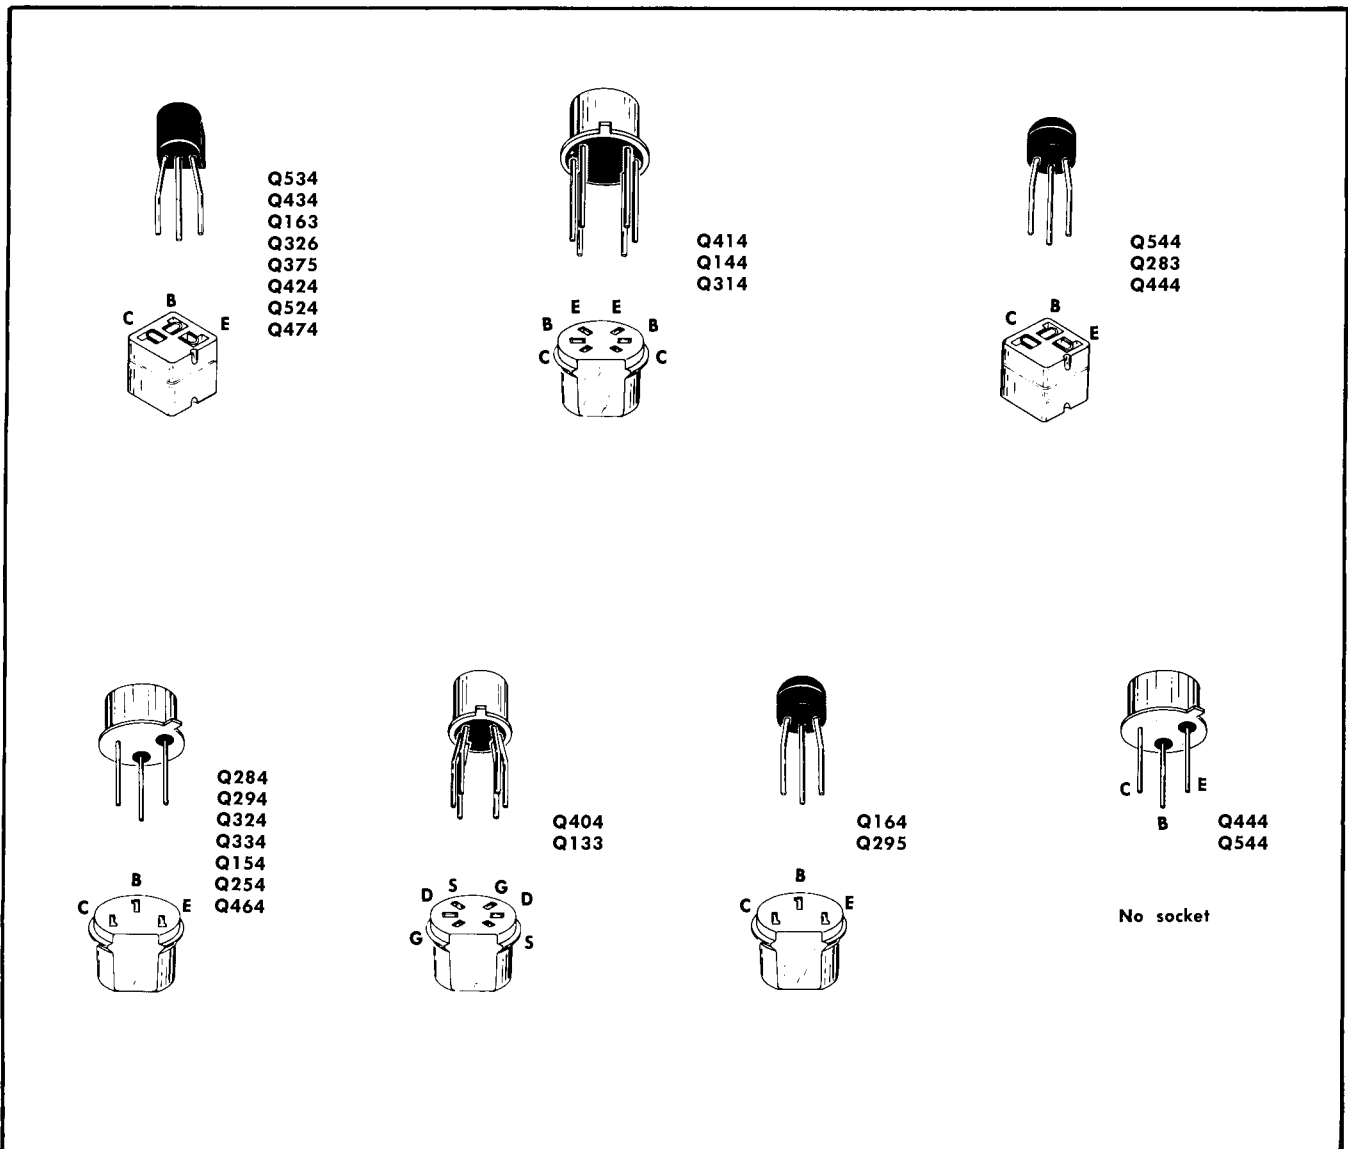

Fig. 4-3. Transistor lead configuration.
**Transistor Lead Configuration.** Fig. 4-3 show the lead configuration of the transistors used in this instrument. The tops of the sockets and the bottom views of the transistors are illustrated.